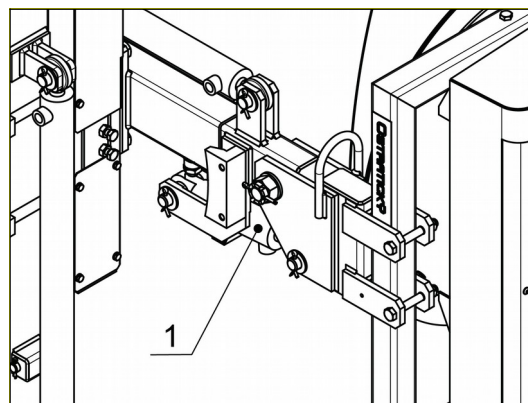

Fig. 26
2. Use the control unit to set desired leaves removing head tilt by the hydraulic cylinder (Fig. 26, No. 1).